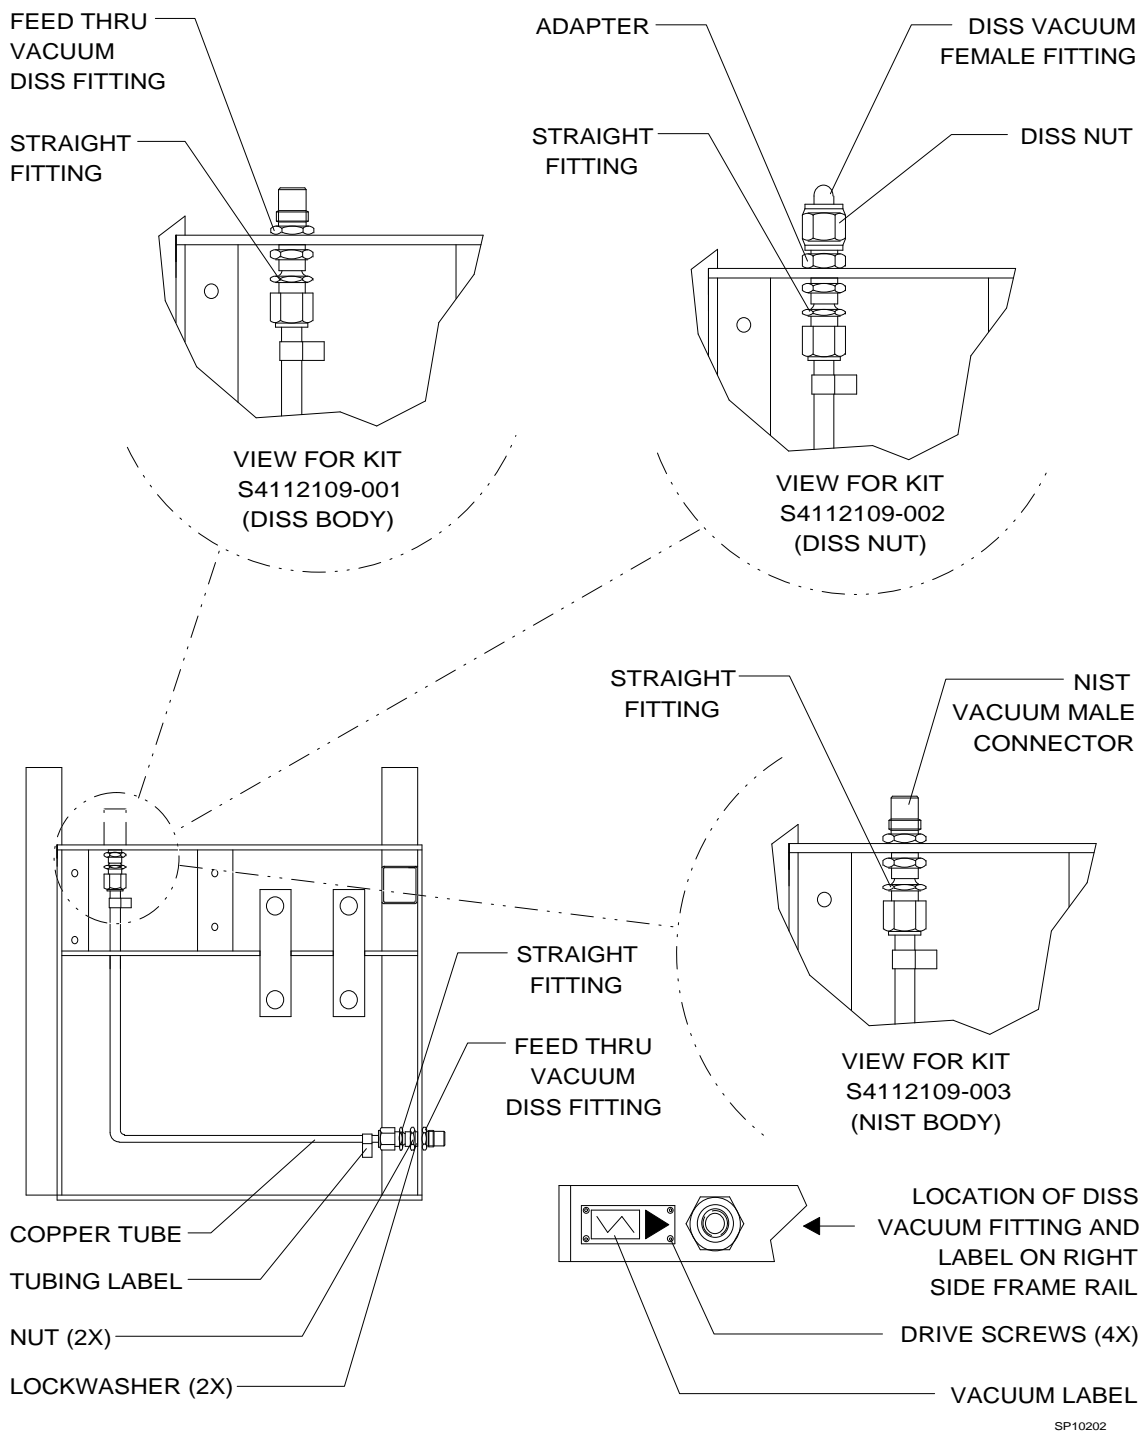
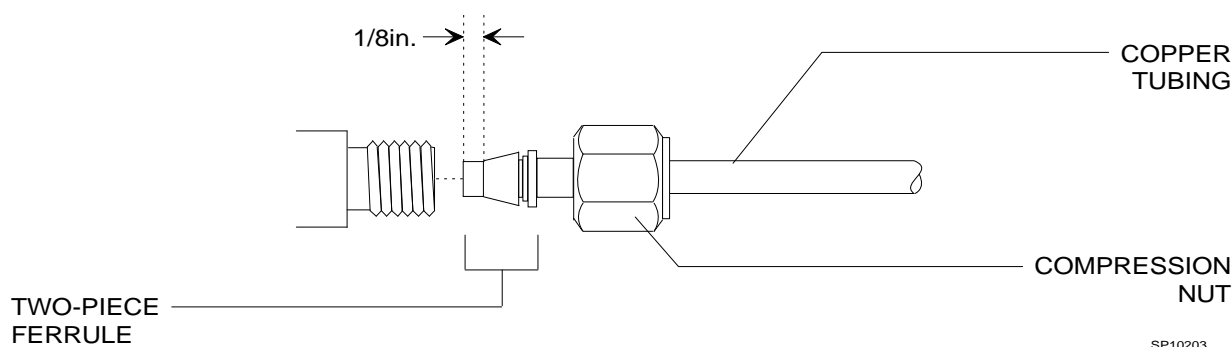

Figure 2: SUCTION SYSTEM PIPING INSTALLATION
Figure 3: ASSEMBLY OF SWAGELOK FITTINGS
7. Install a DISS vacuum feedthru fitting (P/N 4107958) at the hole in the side rail of the machine, and secure it with a lockwasher (P/N HW65012) and $\frac{5}{8}$ -18 nut (P/N HW52002) as shown in Figure 2.
Install the DISS vacuum feedthru fitting (P/N 4107958) into the hole in the back rail of the machine, and secure it with a lockwasher (P/N HW65012) and $\frac{5}{8}$ -18 nut (P/N HW52002) as shown in Figure 2.
Install the $\frac{1}{4}$ NPTF x $\frac{5}{8}$ -18 adapter (P/N 4103915) into the hole in the back rail of the machine and secure the adapter with a lockwasher (P/N HW65012) and $\frac{5}{8}$ -18 nut (P/N HW52002) as shown in Figure 2. Assemble the DISS nut (P/N 4103122) and DISS vacuum female fitting (P/N 4103878), and thread the fitting into the adapter. Use a small amount of Locquic Primer T #747 and Loctite #271 (red) on the threads.
Install the N.I.S.T. vacuum male connector (P/N 4110389) into the hole in the back rail of the machine and secure the connector with a lockwasher (P/N HW65012) and $\frac{5}{8}$ -18 nut (P/N HW52002) as shown in Figure 2.
Ensure that the tube is routed correctly under the inner frame rail as shown in Figure 2, and ensure that the Swagelok fittings are correctly assembled at the tube ends before tightening the compression nuts. See Figure 3.